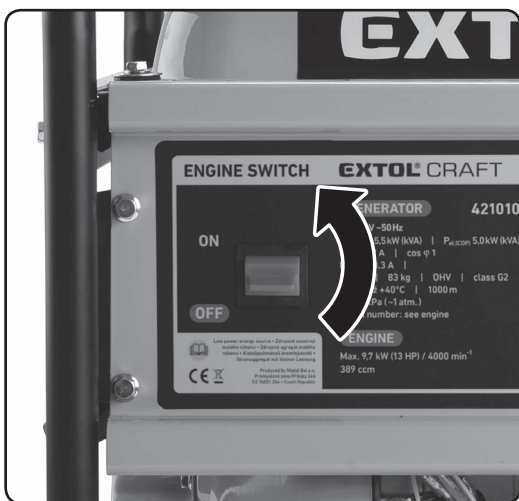

Fig. 17
10. Set the power switch to the "ON" position (fig. 17).